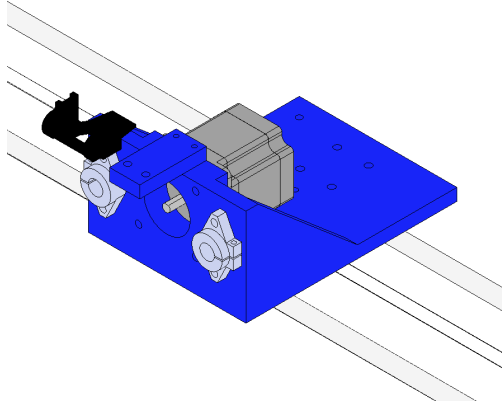

Figure 18: *X-Axis extender* attached to the *X-Axis driver*.
12. Identify the three (3) holes on the top of the *X-Axis driver*. These holes are intended to be used by M3 inserts. Using either a heat gun or a soldering iron, heat three (3) M3 inserts and place them into the holes. Allow for the inserts to cool down before proceeding. Attach the drag chain base and *X-Axis extender* to the holes using three (3) M3 screws. Place two (2) additional M3 inserts on the *X-Axis extender* after heating them. Attach an endstop sensor to the extender once the inserts are cool. The assembly is shown on figure 18.